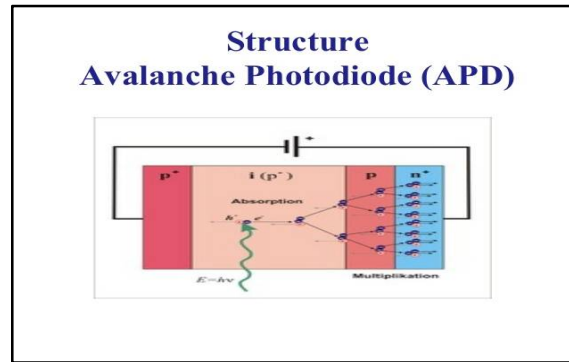

Fig.2.15: Avalanche photodiode
- Thus, a multiplication (or avalanche) process takes place (hence the name), and a substantial current is generated from few initial photons as shown in fig.2.15.